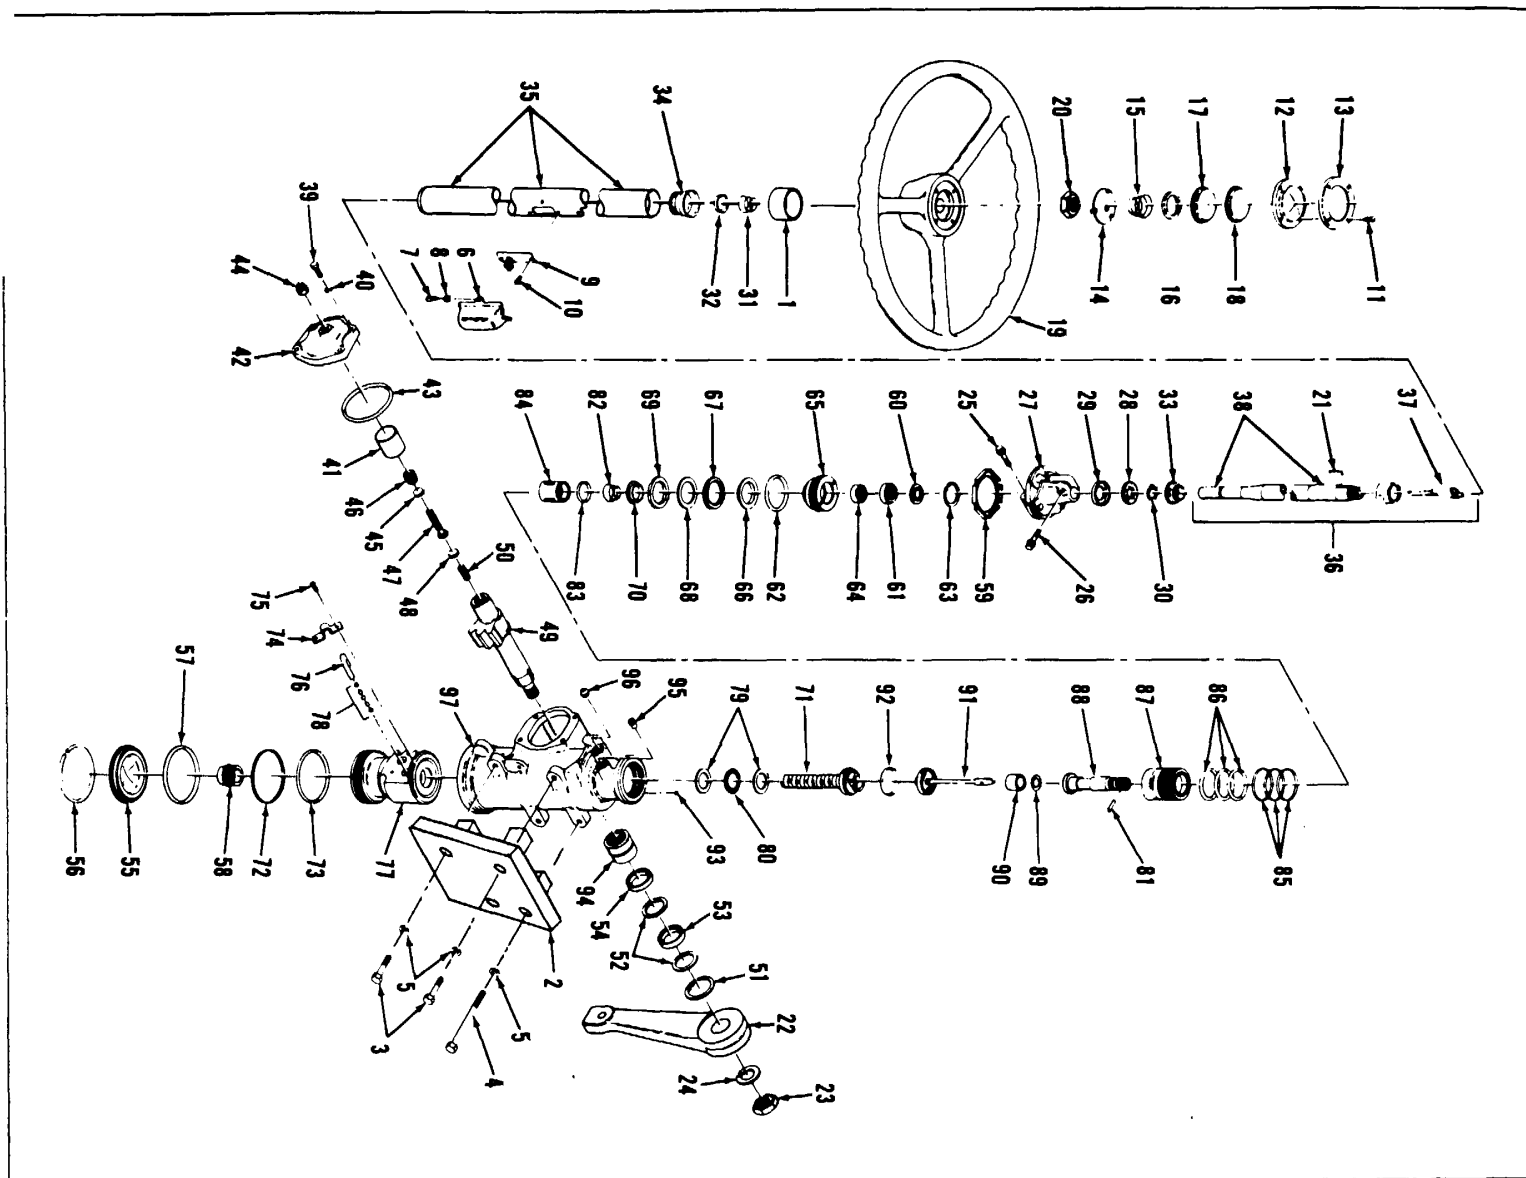

Figure 7-33. Steering Unit
**Key to figure 7-33**
**Key to figure 7-33 (cont)**